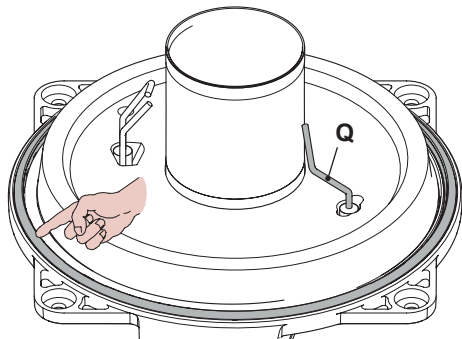
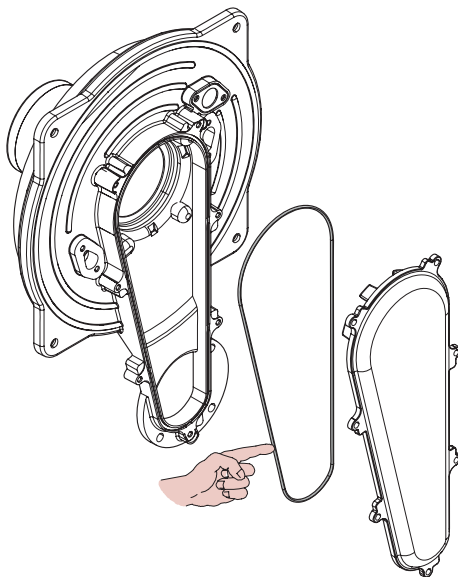

Fig. 10.9
Fig. 10.10
- The silicon seal on the front wall of the combustion chamber Fig. 10.9 and the seal on the air/gas pipe cover (Fig. 10.10) must be replaced if worn.
- The detection electrode **Q** in Fig. 10.9 also functions as a sensor for the correct drainage of the condensate. Should the mentioned electrode come into contact with the condensate water present within the combustion chamber it sends the boiler into safety lockout. Therefore, should the insulation be wet or deteriorated, provide for the substitution of the same.
**Caution:** After any periodical servicing or disturbance the combustion chamber silicon seal Fig. 10.9 and the Air-gas duct gasket (Fig. 10.10) must be fully inspected and replaced at the discretion of the service engineer.